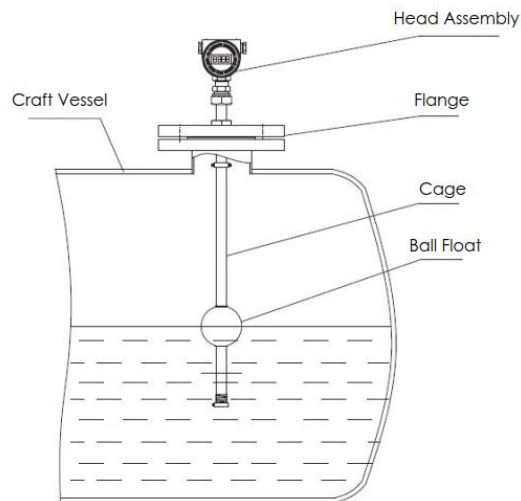

Figure 5 Installation Procedure
6.3 Installation Procedure-Figure 5
6.3.1 When installing UQZ magnetic float level transmitter, as shown in Figure 5, the flange of the level transmitter is connected to the flange of the process vessel, to ensure good contact between the flange and the sealing gasket.